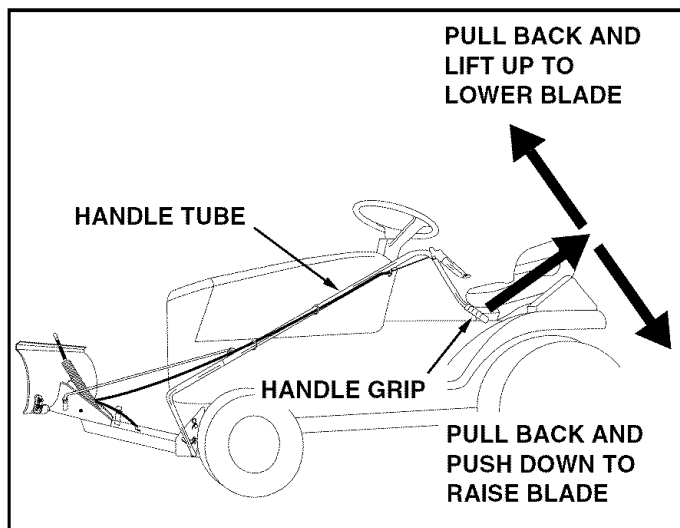

FIGURE 19
- Use the handle grip located on the end of the handle tube. To raise the blade, pull back while pushing down on the handle grip. To lower blade, pull back while lifting up on handle grip. See figure 19.